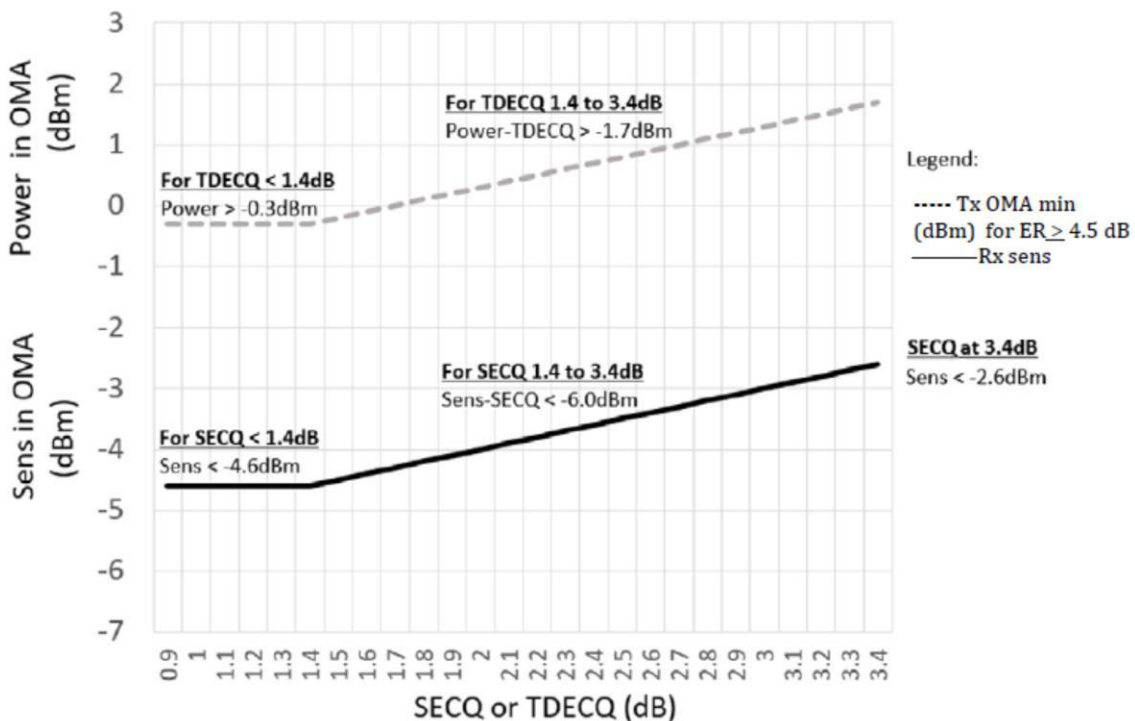

Figure 4. Illustration of Receiver Sensitivity Mask for 400G-FR4
- 6. Receiver sensitivity (OMA_{outer}) is informative and is defined for a transmitter with a value of SECQ up to 3.4 dB. Receiver sensitivity should meet Equation (1), which is illustrated in Figure 4.